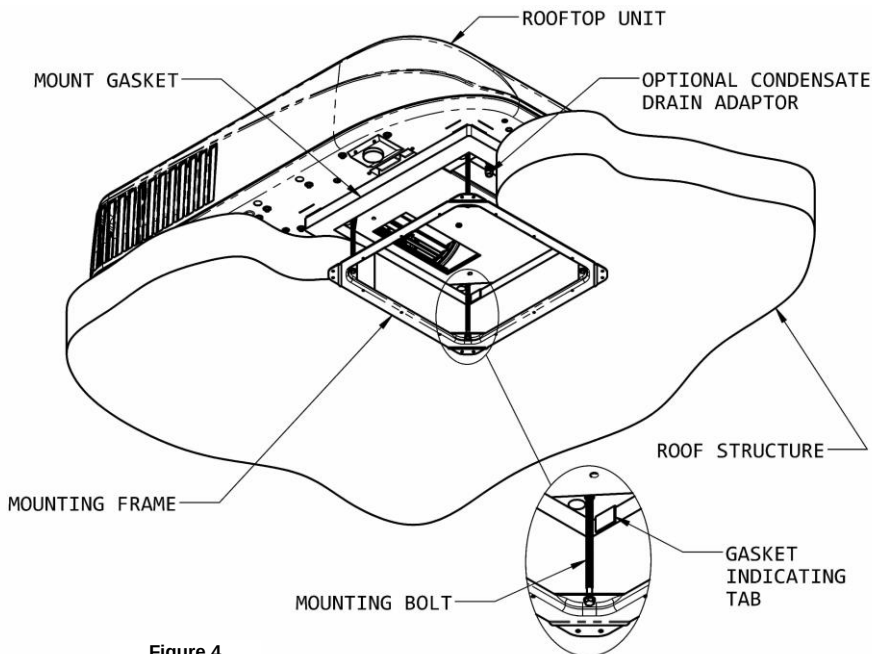

Figure 4
A mounting frame is supplied with the ceiling assembly. Follow the steps below to secure the air conditioner to the roof. Refer to Figure 4.
3. Proper tension has been achieved for each bolt when any portion of each gasket indicating tab has been pulled down even with the roof (See Figure 4). The upper unit has now been properly installed with optimum gasket compression.
4. If the air conditioner is equipped with an optional evaporator condensate pump, 1/2" I.D. hose must be provided that runs from the 14" square opening, through the vehicle ceiling and down the side wall. This allows the condensate to drain under the vehicle. The hose must not be allowed to kink shut while making a bend. Connect the top end of the drain hose to the barbed fitting shown in Figure 4.